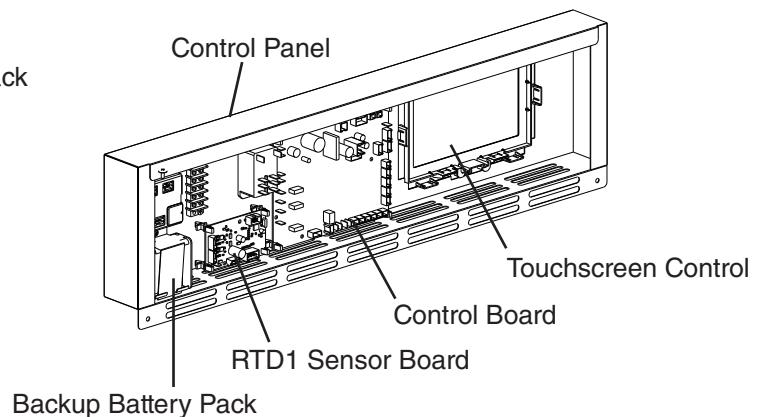

Fig. 5
- 2) Remove the backup battery pack. See Fig. 5.